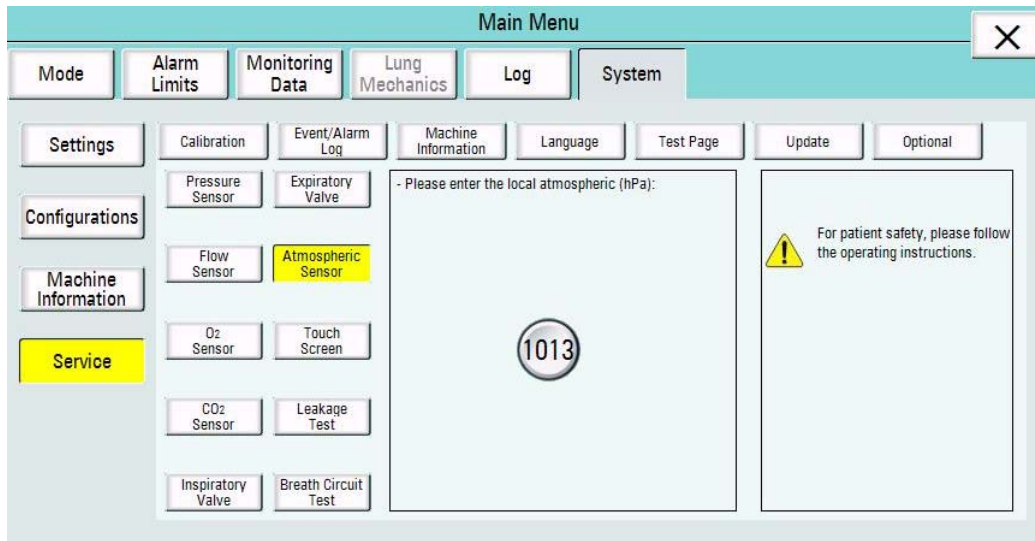

Figure 6-68
(7) **Atmospheric Sensor Calibration:** Click “Atmospheric Sensor” to enter the atmospheric sensor interface, as shown in Figure 6-68.